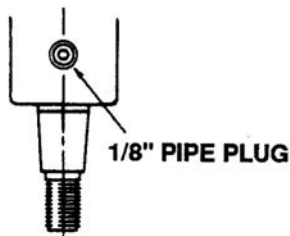

Figure 6-114. Install Pipe Plug
- (3) Press out damaged dowel pin through access hole, and remove control shaft and washer.
- (4) Tap hole drilled in step (2) with a 1/8 inch pipe tap and install a flush type pipe plug. See Figure 6-114.